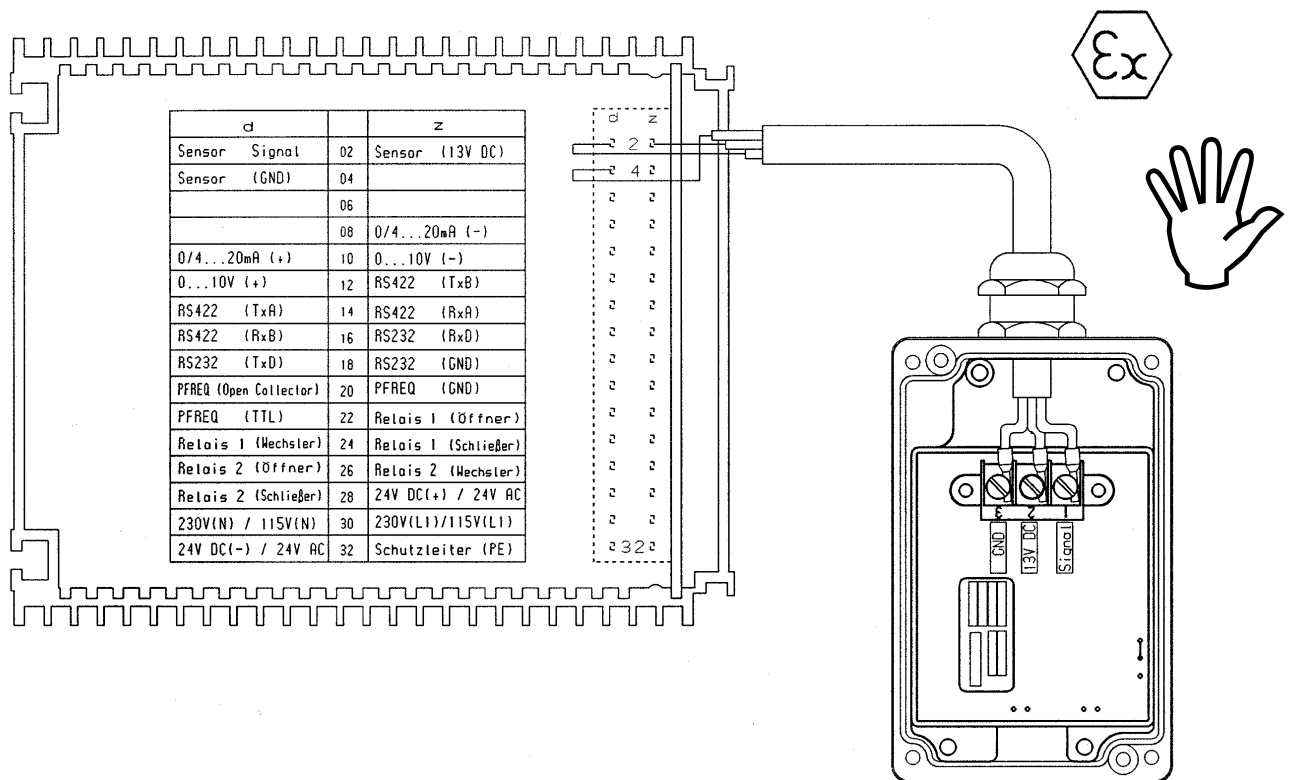

Figure 6: Connection Sensyflow VT2 in 19" rack or panel mouting
- 6.1) to the spring contact strip in the 19" cassette version (see Figure 6)